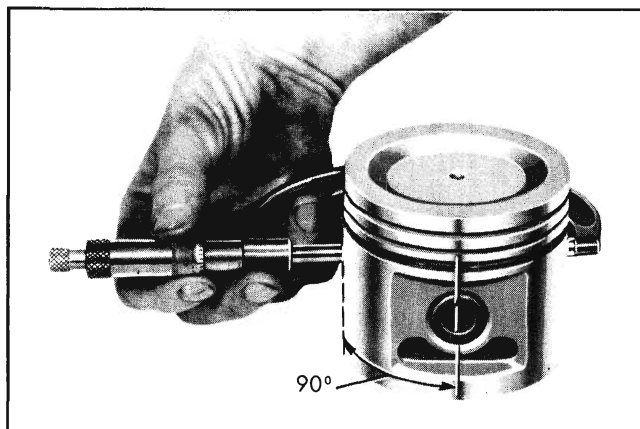

Fig. 6-118 Measuring Piston
Pistons are cam ground, which means diameter at a right angle to piston pin is greater than diameter parallel to piston pin. When a piston is checked for size, it must be measured with micrometers applied to the skirt at points 90° to piston pin. See Fig. 6-118. The piston should be measured (for fitting purpose) ¼" below the bottom of oil ring groove.
3. Measure the piston to be installed. See Fig. 6-118. The piston must be measured at right angles to the piston pin $\frac{1}{4}$ " below the oil ring groove. The piston must be between .001" and .0015" smaller than the cylinder bore.